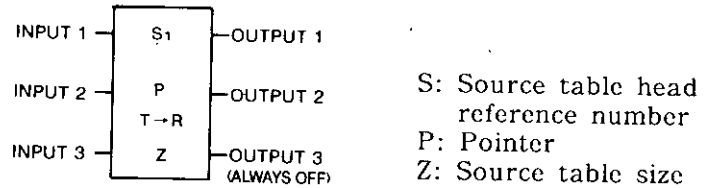

Fig. 5.53 T → R General Form
- Fig. 5.53 shows the form of block move.